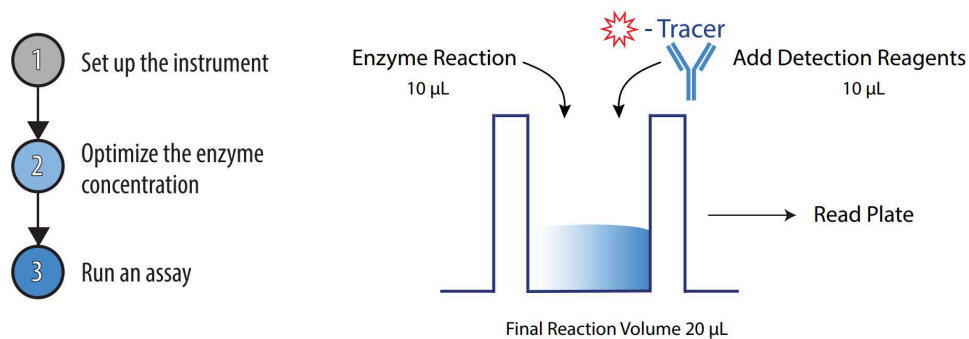

Figure 2. An outline of the procedure. The procedure consists of 3 main steps with a mix-and-read assay format.
- 4 The Transcreeper OAS FP Assay protocol consists of 3 steps (**Figure 2**). The protocol was developed for a 384-well format, using a 10 µL enzyme reaction and 20 µL final volume when the plates are read. The use of different densities or reaction volumes will require changes in reagent quantities (see **Section 7.2** for example reaction volumes). Once the instrument parameters and enzyme optimization are complete, the assay itself consists of a single step - simply add detection reagents to your enzyme reaction and read the plate.